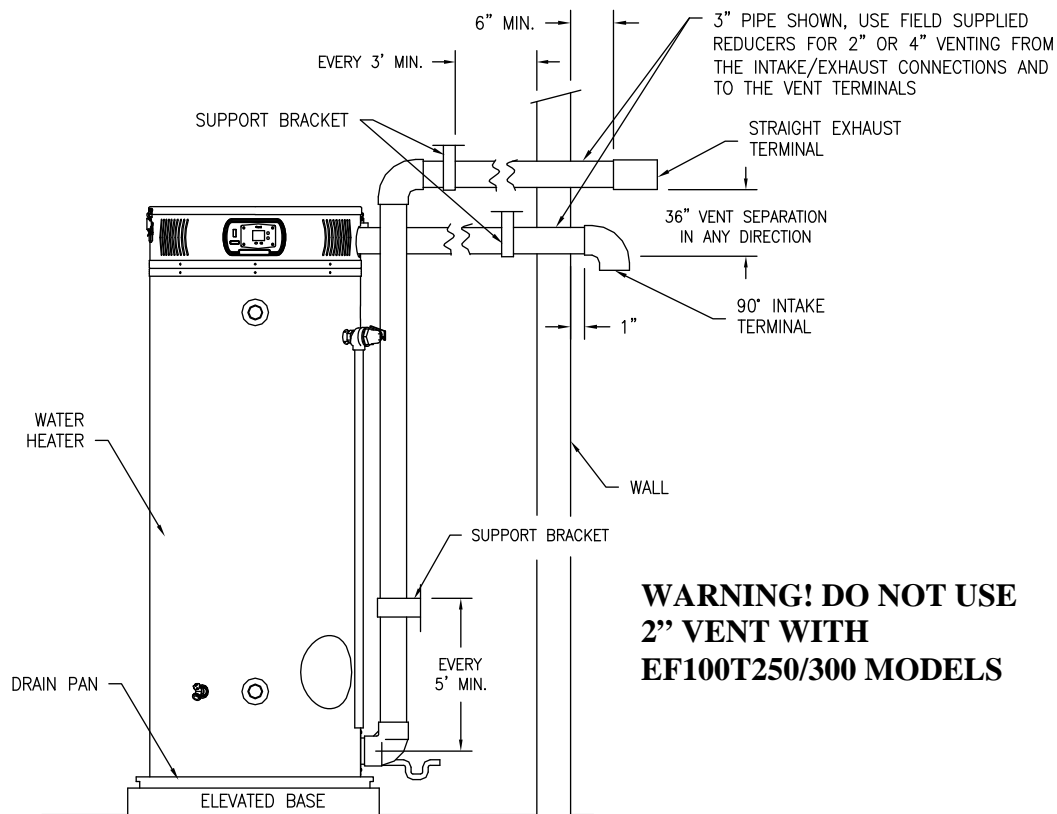

Figure 12. Typical Horizontal Direct Vent System
2. Use the proper cement to secure the exhaust vent and air intake terminals provided with the water heater to the pipes. The distance between the back edge of the exhaust vent terminal and the exterior wall (see Figure 12) must be 6 inches (12.7 cm) more for the exhaust vent terminal than the air intake terminal. Use the proper cement or sealant and assembly procedures to secure the vent connector joints between the terminal and the blower outlet. Provide support brackets for every 3 feet (.91 m) of horizontal vent beyond the intake terminal.